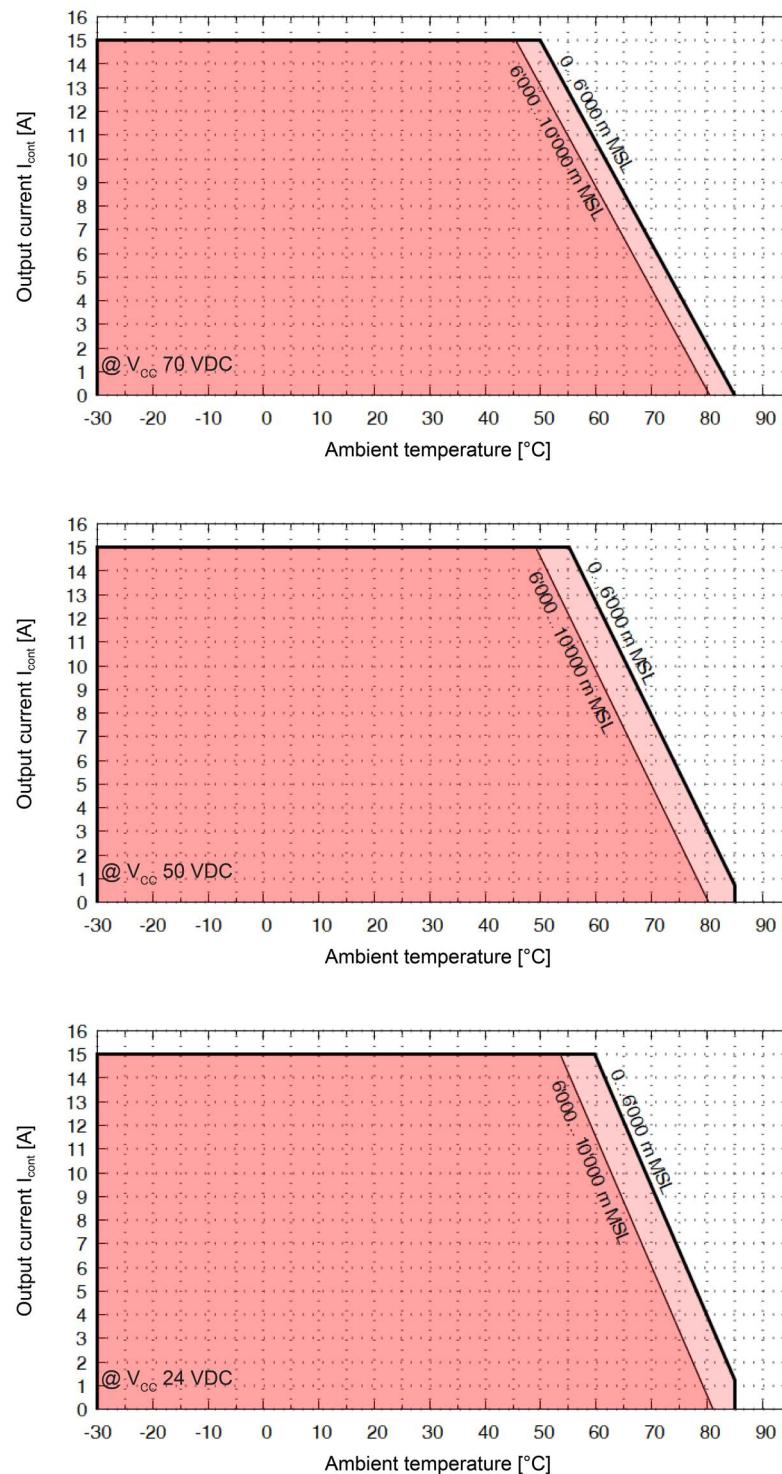

Figure 2-2 Derating of output current
Extended range [a]	+50...+85 °C; Derating: $-0.429 \text{ A}/\text{°C}$ (→Figure 2-2) Additional derating with inserted extension card: Ambient temperature less 5 °C (→Figure 2-2) [d]
- [d] Derating further increases with an inserted extension card. For the actual value, consult →Figure 2-2 and shift the graph horizontally to the left by the specified value.